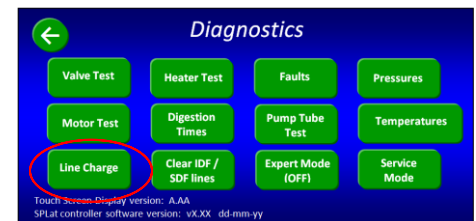

Figure 27
- Press the Line Charge button on the "Diagnostics" screen. See Figure 27.